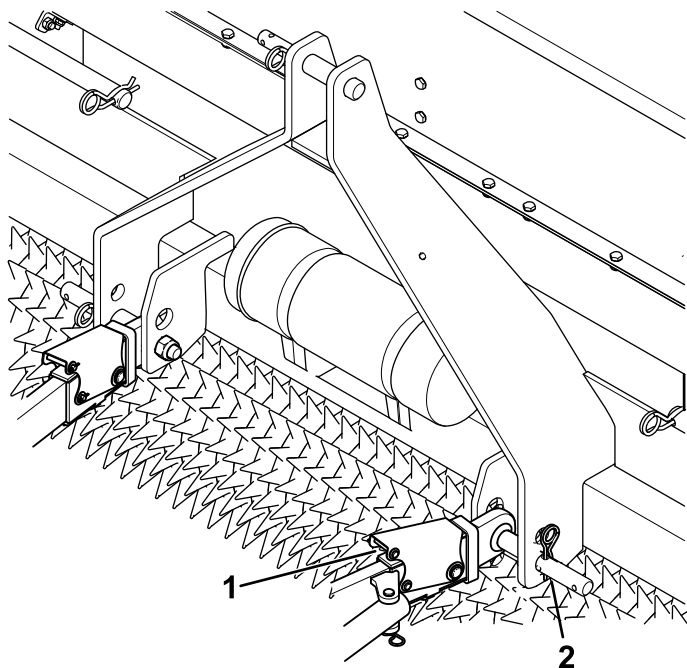

Figure 11
4. Remove the lower link arms (Figure 11).